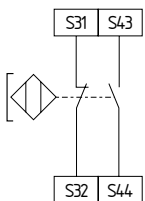

Fig. 14
8.3.3 Sensor configuration - Dual-channel control of magnetic safety switches to EN 60947-5-3 (see Fig. 14)